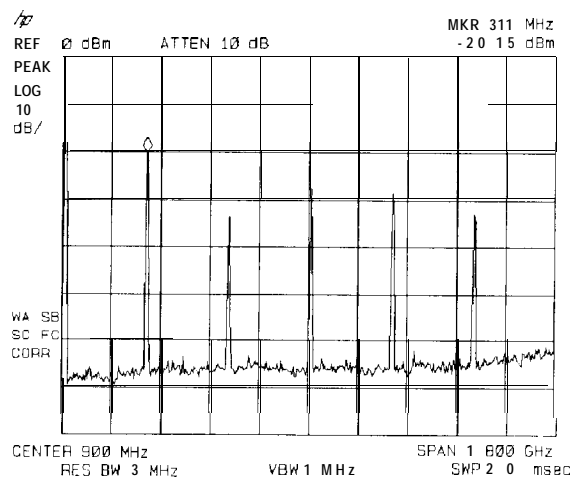

Figure 3-12. Placing a Marker on the CAL OUT Signal
2. Press **PEAK SEARCH** to place a marker at the highest peak on the display. The NEXT PK RIGHT and NEXT PK LEFT softkeys move the marker from peak to peak. Press NEXT PK RIGHT to move the marker to the 300 MHz calibration signal. See Figure 3-12.